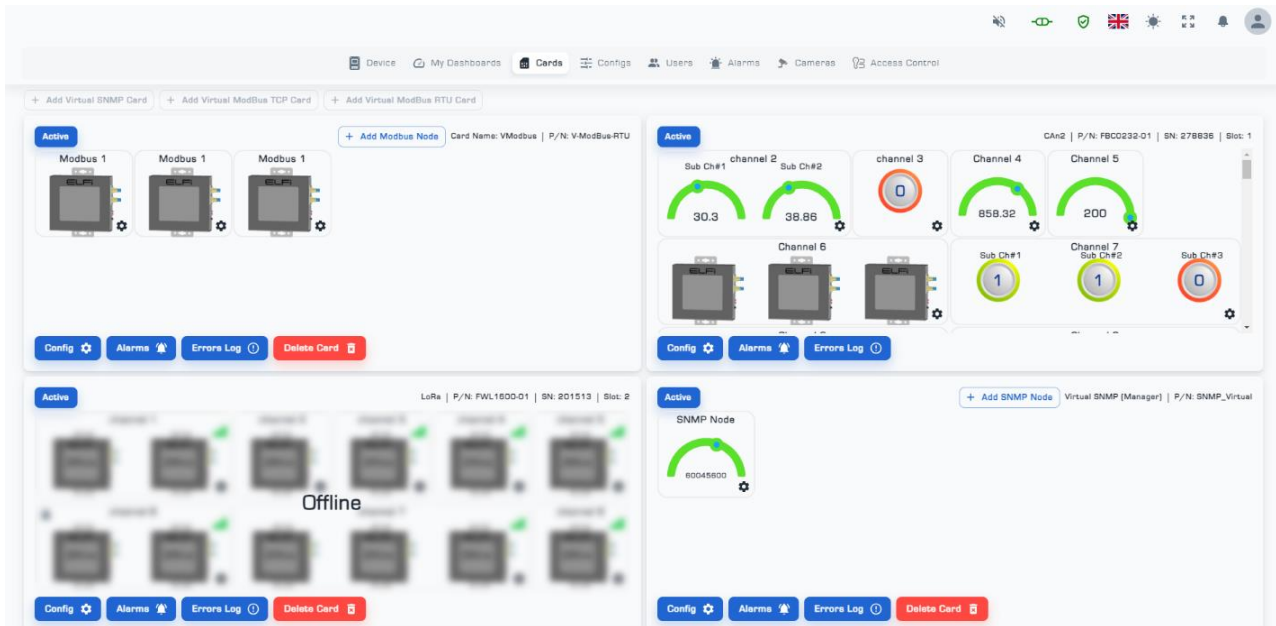

Figure 28: Cards screen
■ In the 'Cards List' submenu, information about the identified physical cards is displayed, including card code, serial number, and installation slot number. Additionally, a live display of the cards and their input data (in real-time) is available (Figure 28). The status of each card, whether it is Online or Offline, is also shown. Furthermore, there are menus such as 'Config,' 'Alarms,' and 'Errors Log,' which correspond to the settings, list of alarms defined for each channel or sub-channel, and list of nodes with errors, respectively. Each of these menus has different settings and functionalities depending on the type of card1.
(1) On the 'Cards List' page, click on the '+Add Virtual SNMP Card' option (Figure 28).
(1) On the 'Cards List' page, click on the '+Add Virtual ModBus TCP Card' option (Figure 28).
(1) On the 'Cards List' page, click on the '+Add Virtual ModBus RTU Card' option (Figure 28).